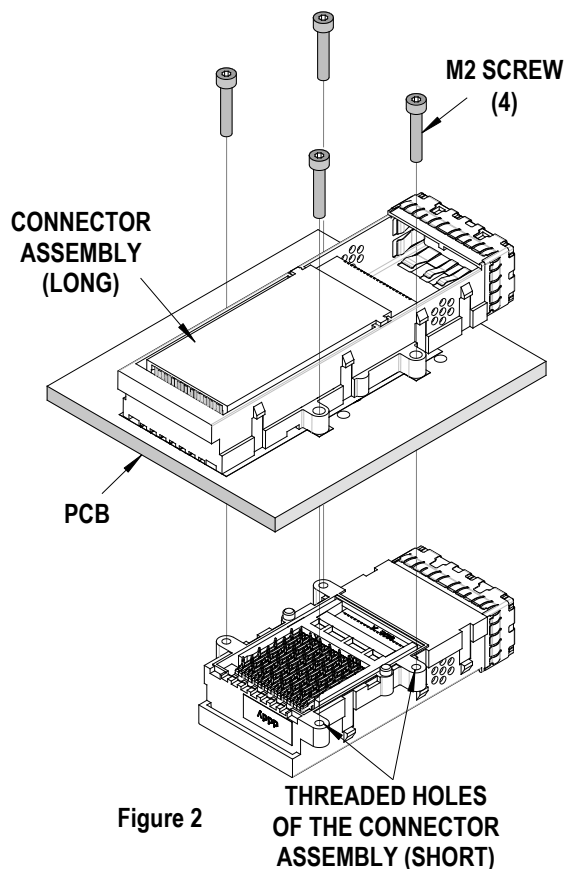

Figure 2
The (long) connector assembly is held to the “short” assembly with (4) M2 screws. Before any removal operation is done, these M2 screws must be removed. See Figure 2.